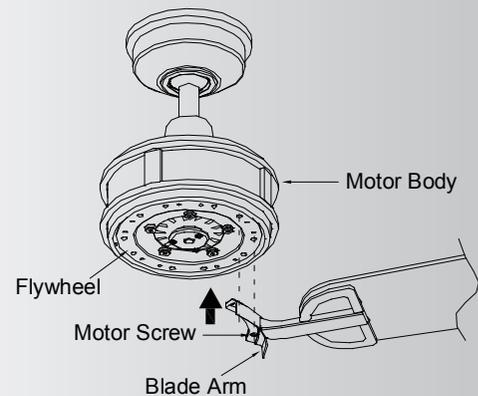

Fig. 19
**Step 2.** Fasten blade assembly to the holes located on the bottom of the flywheel. Tighten the two "pre-installed" motor screws in the blade arm. Repeat steps for the remaining blades assemblies. (Fig. 19)